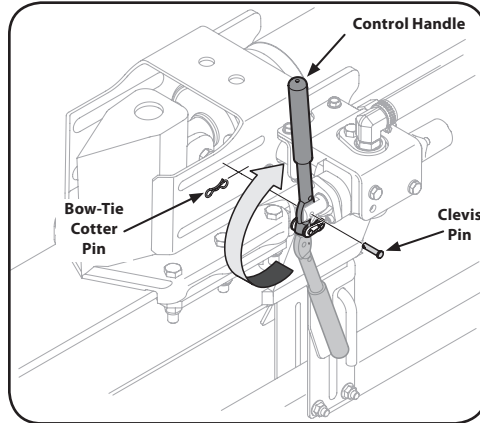

Figure 3-8
1. Remove the clevis pin and bow-tie cotter pin from the control handle. See Figure 3-8.
2. Rotate the control handle into the operating position and secure with the clevis pin and bow-tie cotter pin removed in step 1. See Figure 3-8.